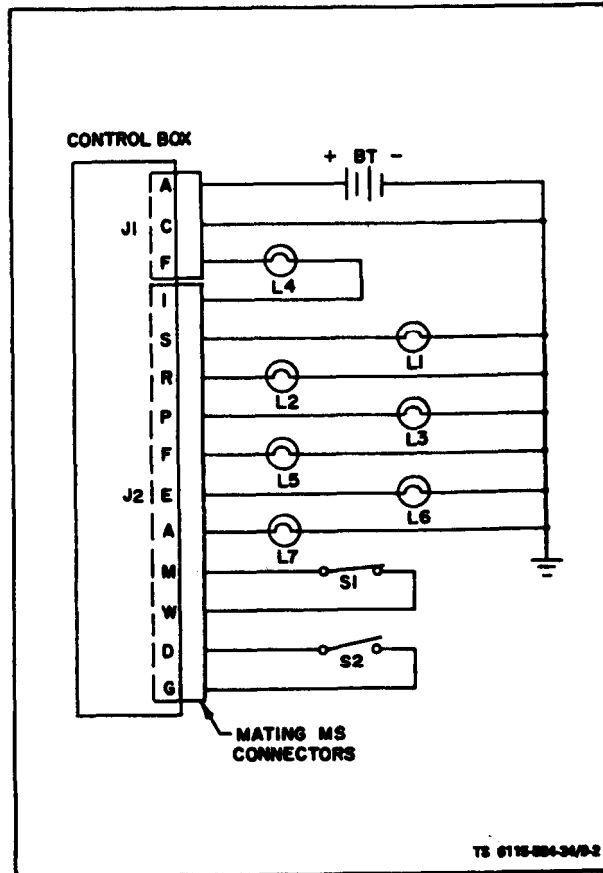

Figure 9-2. Testing Engine Control Circuitry
- (1) Batteries, 24 volts lead acid (BT1 and 2).
- (2) Switch, SPST S1, S2).
- (3) Lamps, 24V (L1, L2, L3, L4, L5, L6, L7).
- b. Test Setup. Connect control box and test equipment as shown in figure 9-2.